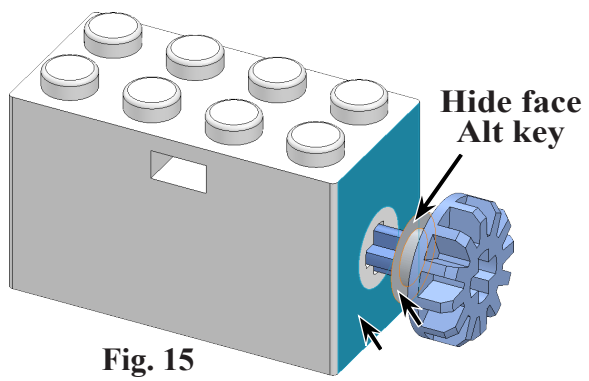

Fig. 15
Step 2. Click **side face of Motor** and **hide cylindrical face of Washer**, click **rear face of Washer**, **Fig. 15**. To hide face, hover cursor over face and press **Alt** key.